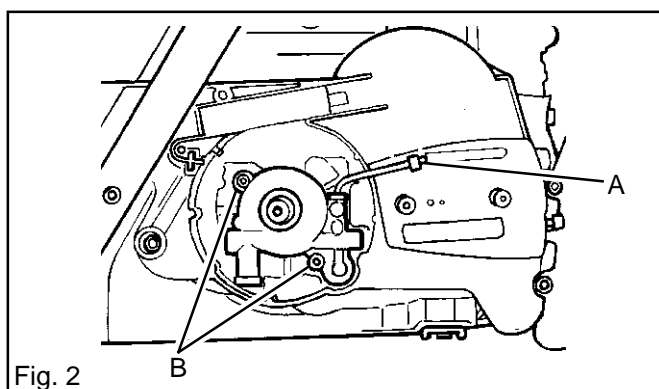

Fig. 2
4. Grease in the needle bearing before fitting. Fit the clutch drum (C) with needle bearing (D) and chain drive sprocket (E). See fig. 2 page 24.
5. Fit the washer and locking ring (B). See fig.2 page 24.
4. Remove the two bolts (B) and lift up the oil pump from the crankcase. See fig. 2.
5. Use a screwdriver to push up the oil pipe at A. Lift up the pipe and pull it out of the oil pump. See fig. 2.
6. Fit the oil pump in the crankcase. Fit the oil pipe with seals. See fig.2 page 28.
7. Tighten the bolts to 5 Nm. See fig. 2 page 28.
- The mixing venturi, B in fig. 2.